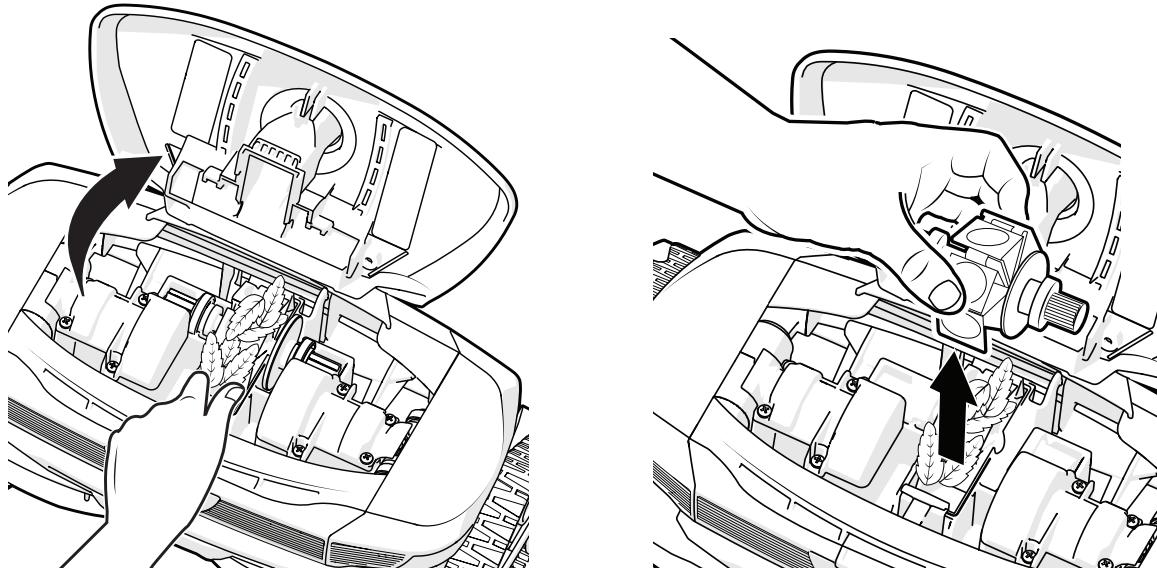

Figure 13. Remove Debris From the Engine
3. If necessary, pull the engine by the engine blades and remove it. No tools required (Figure 13).